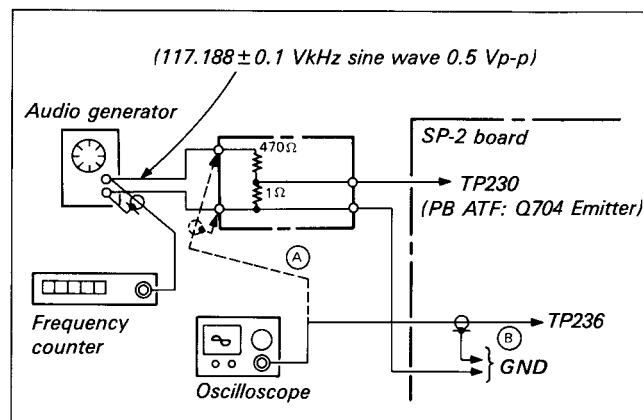

Fig. 8-7.
Signal	See Fig. 8-7
- 1) Check the output level of the audio generator with an oscilloscope and adjust so that the sine wave output level becomes 0.5 Vp-p. (Fig. 8-7 (A))